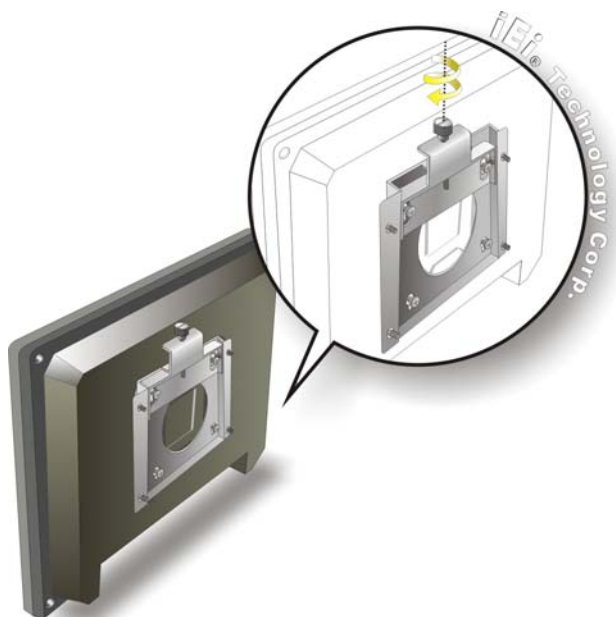

Figure 4-9: Secure the Panel PC
Step 9: Secure the panel PC by fastening the retention screw of the wall-mounting bracket. (**Figure 4-9**).